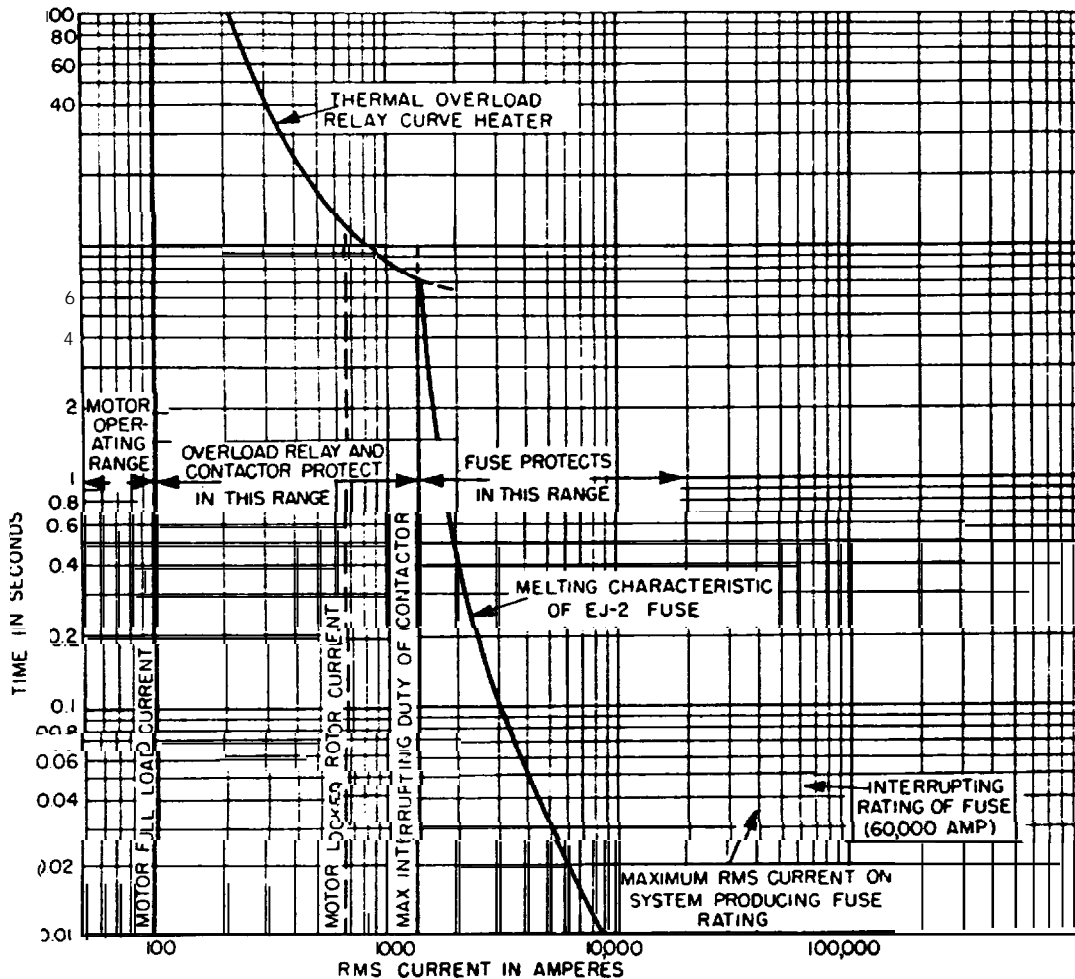

Figure 5-4. Coordination of motor overload relay and current limiting fuse.
(2) *Fuse-protected starters.* Fuse-protected starters provide the best degree of starter and thermal overload relay protection particularly for severe short circuits (fig 5-4). The disadvantages of fused-